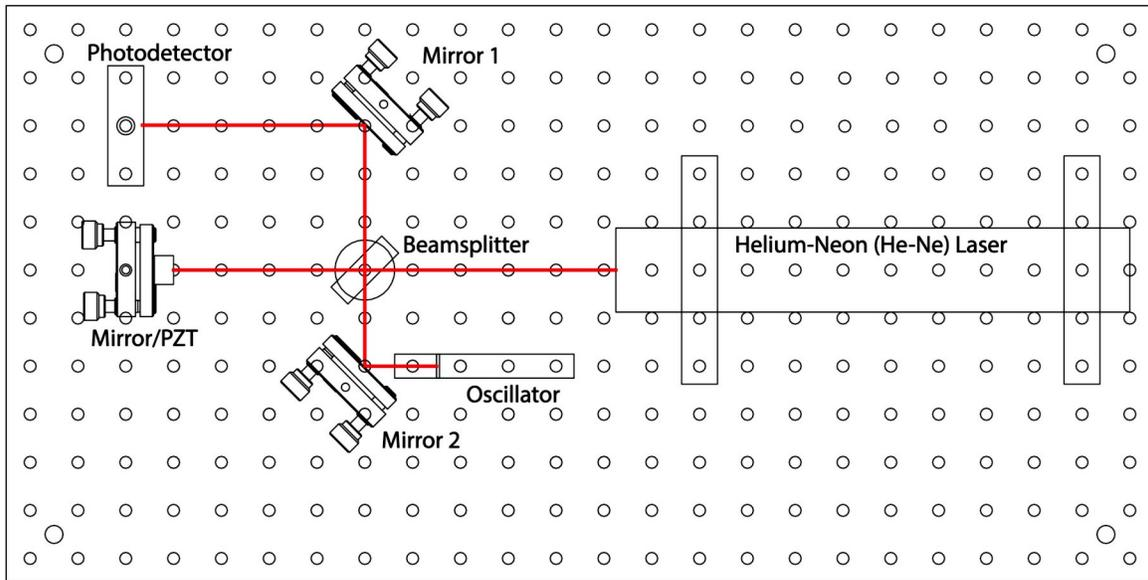

Figure 5. The interferometer set-up for the second week. Here Mirror 2 is a folding mirror, while the small mirror on the oscillator retroreflects the beam.
- With these rules in mind, your next task is to set up the optics as shown in Figure 5. We call this a “folded” interferometer because one of the arms is “folded” by Mirror 2. To begin, place a white card where Mirror 1 would sit, with the card perpendicular to the laser beam. You should see a spot on the card; note that the beam went through the beamsplitter, reflected off the Mirror/PZT, and then reflected off the Beamsplitter to make that spot.
- Next make sure both adjustment screws in Mirror 2 are near the center of their range – not all the way out or all the way in (Rule 5 above), and set Mirror 2 in place as shown in Figure 5 (but don’t clamp it down yet). Align Mirror 2 so three things happen: 1) the incident laser beam hits Mirror 2 near its center (Rule 3), 2) the reflected beam hits the oscillator mirror near its center (Rule 3 again), and 3) the beam is “retroreflected” off the oscillator – that is, the beam reflecting off the oscillator mirror goes in the opposite direction of the incident beam. Note that the retroreflected beam will then appear as a second spot on the card, near the first spot.
- Once you understand the interferometer fringes to your satisfaction, remove the Diverging Lens and set up the interferometer shown in Figure 5, this time with Mirror 1 clamped down. Check that all the clamps are tight, and that the two main beams overlap at the photodiode, and are centered on the photodiode. Note how there are again just enough degrees of freedom to produce an aligned interferometer. The Mirror 2 alignment sets the overlap of the two arm beams; and Mirror 1 sends the beam to the center of the photodiode.
- If you take a closer look at the oscillator (see Figure 5), you will see what is basically a rectangular aluminum post with a small mirror attached to one side and a magnet attached to the other side. The post behaves like a rigid body that pivots about the fixed attachment point at the base of the post (like one arm of a tuning fork). In a nutshell, this device behaves like a simple harmonic oscillator; if moving freely, the post oscillates back and forth with some resonance frequency ν_0 . If you send an oscillating current through the nearby coil, the resulting magnetic field pushes and pulls on the magnet, and you have a driven harmonic oscillator.